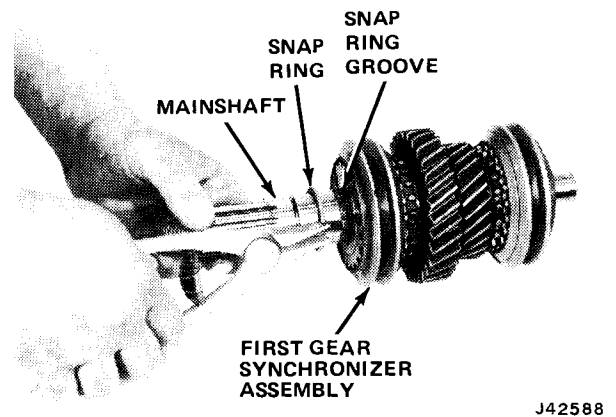

Fig. 6-24 First Gear Synchronizer Hub Snap Ring Removal-Installation
(12) Install First gear clutch hub snap ring (fig. 6-24).